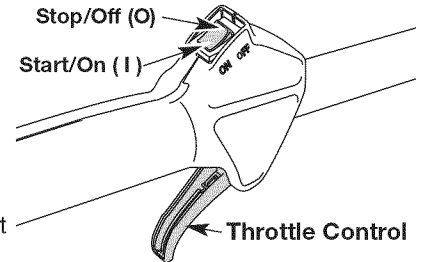

Fig. 2
NOTE: There is no need to turn the unit on. The On/Off Control is in the ON (I) position at all times (Fig. 2).
2. Press and hold On/Off Stop Control in the OFF (O) position until engine comes to a complete stop (Fig. 2).